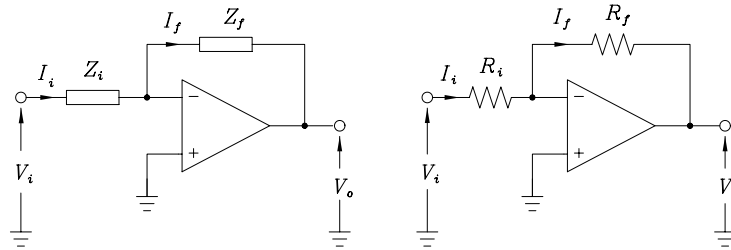
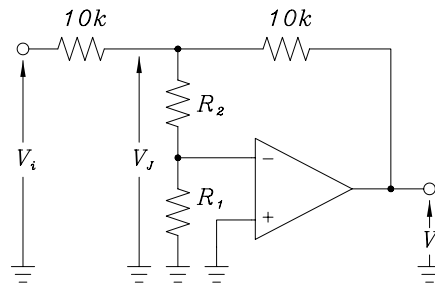

Figure 2: Operational amplifier in inverting configuration
Figure 3: Circuit for measuring open-loop gain
In Fig. 2(a), since $V_+ = 0$, it follows that $V_- = 0$. Equating the currents in Z_i and Z_f (since the amplifier input current is zero), and rearranging we obtain the following equation for the voltage gain:
- (2) Set up the circuit shown in Fig. 2(b) with $R_i = 10 \text{ k}\Omega$ and $R_f = 10 \text{ k}\Omega$. Apply a triangular input waveform (e.g. 100 Hz, 10 V p-p) and observe V_o -versus- V_i on the oscilloscope in XY mode. Verify the voltage gain expression:
The open-loop gain is far too large to measure directly. By measuring V_o and V_J in the circuit of Fig. 3, the open-loop gain can be obtained from:
- (8) Set up the circuit of Fig. 3 with $R_2 = 100\text{ k}\Omega$ and with a 10 Hz sinusoidal input voltage for V_i . By observing V_o and V_J in time synchronisation, determine A .
- (9) Taking about 1 reading per decade over the range 10 Hz to 1 MHz, plot graphs of $|A|_{\text{dB}}$ and $\arg A$ versus frequency on 5 cycle semi-log paper **as readings are taken**. Note that as the amplifier gain decreases, it will be necessary to select the appropriate value of R_2 to maintain V_J at a convenient value. The output should be undistorted for the measurements to be valid.
- (10) From the Bode plots obtained in (9), deduce an equivalent circuit for the operational amplifier.
- (11) Calculate the percentage error in the equation $V_o/V_i = -R_f/R_i$ for the circuit of Fig.2(b) owing to the finite open-loop gain of the amplifier obtained above at frequencies of 10 Hz, 1 kHz, 100 kHz and 1 MHz, assuming (N.B. remember that A is complex, and that you have measured both $|A|$ and $\arg A$).
The input impedance of the operational amplifier is very high. However in the feedback amplifier circuit of Fig.2(b), the input impedance as seen by V_i is independent of that of the operational amplifier.
- (20) Show that the input impedance of the circuit of Fig. 2(b) is essentially R_i .